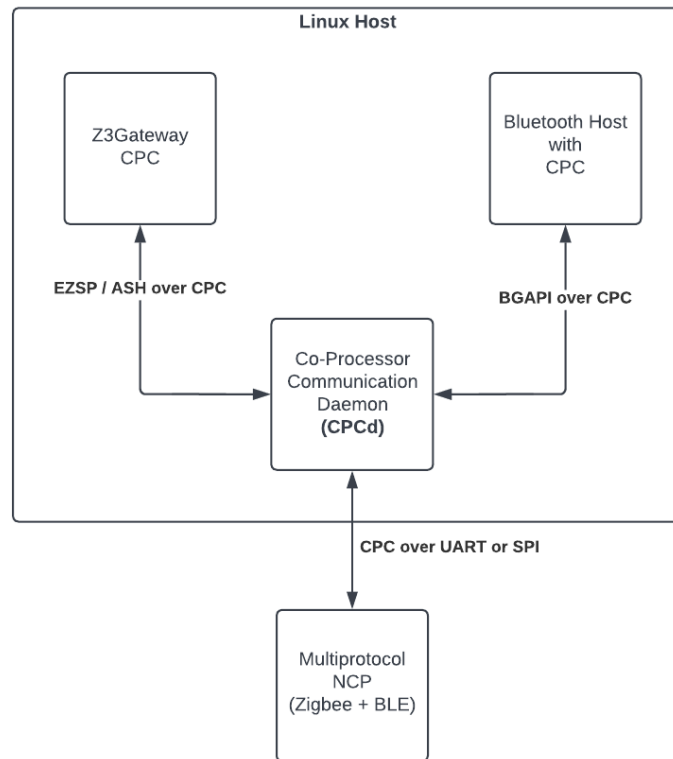

Figure 1-3. System Architecture for the Zigbee NCP + BLE NCP
4. The multiprotocol NCP runs Zigbee and BLE stacks on the EFR32. The Zigbee application (Z3GatewayCPC) runs on the Linux host and communicates with the NCP using EZSP over CPC (SPI and UART are both available options). The Bluetooth host app `bt_host_empty` is present in the container and is compiled with `CPC=1` option to enable communication with the DMP NCP over CPC. Note that the `-R` option must be used when running the Bluetooth host to prevent it from rebooting the NCP as part of the startup sequence. For convenience, after running the container you can start the `bt_host_empty` app with the command `run.sh -B`. See Figure 1-3. System Architecture for the Zigbee NCP + BLE NCP.